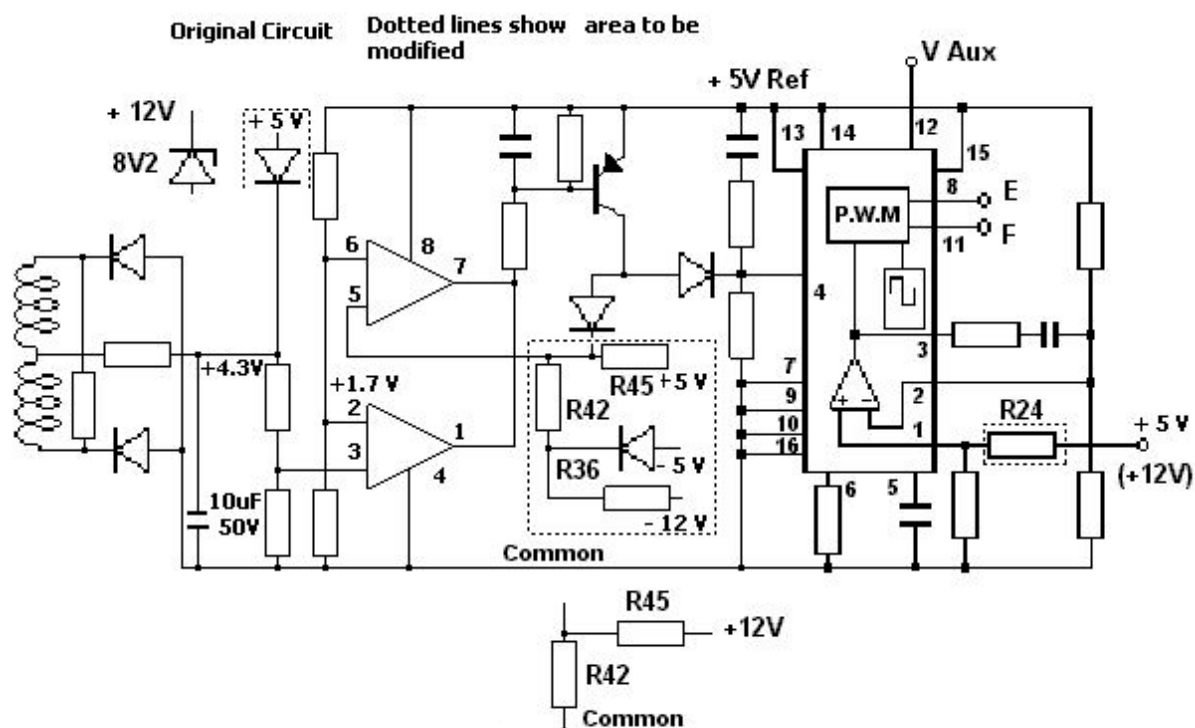
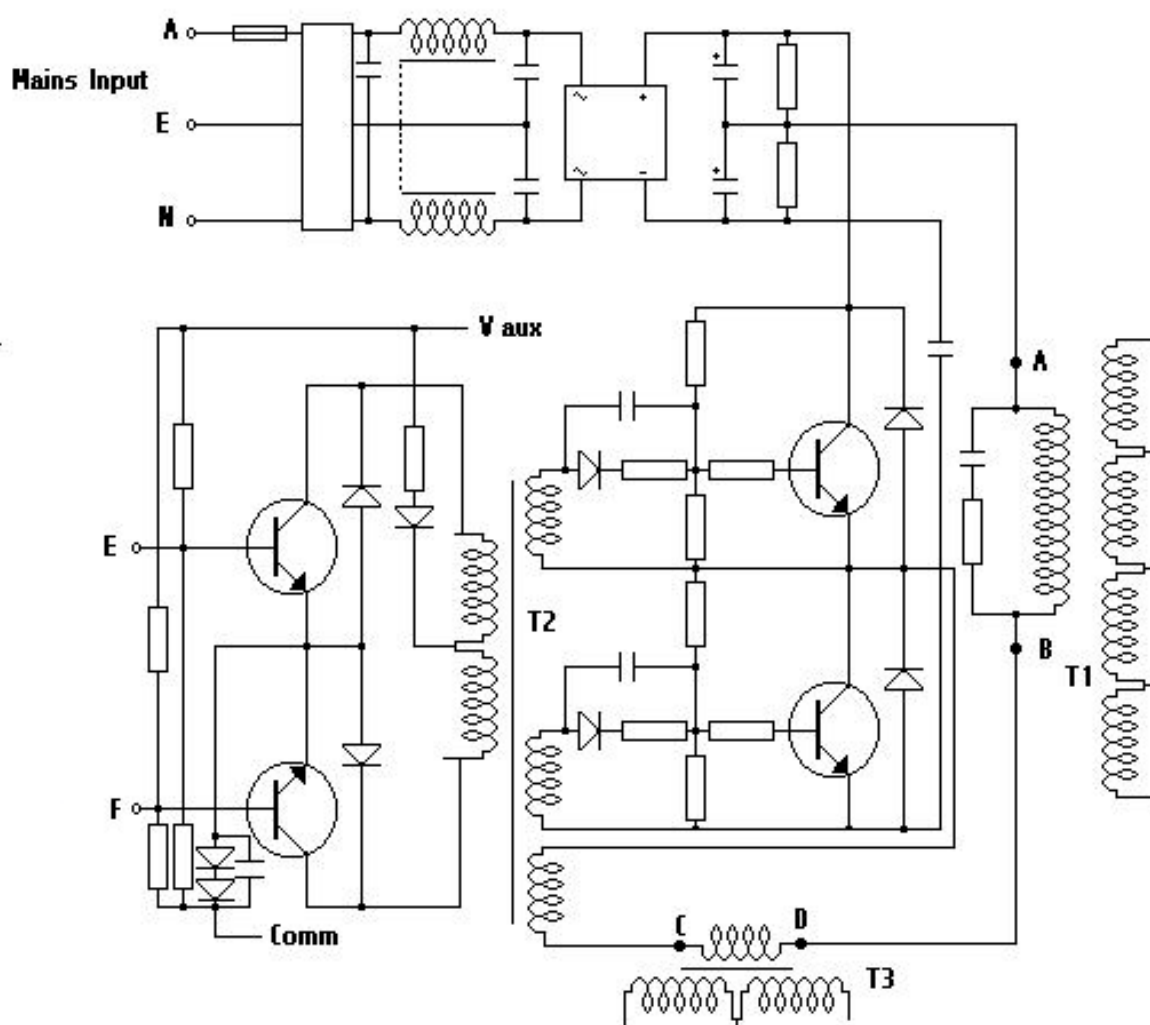

Fig 2: The regulation and protection circuitry
Fig 3: The primary side: mains filter, mains rectifier, power switches and drivers.
THE ERROR AMPLIFIER in IC1, TL494CN, (Fig 2) compares the actual +5V output voltage with an on-chip reference and adjusts the set-point for the pulse width modulator accordingly. The modulator sends alternate pulses to the driver transistors TR3 and TR4 (Fig 3). Increased loading on the 5V output makes for wider pulses; lighter loading causes narrower pulses. As there is a finite minimum pulse width, a minimum load of 0.1A is required; it is provided by a bleeder resistor. As L4a and L4c are wound on a common core with L4b, the +/-12V outputs are also included in the regulation loop. Several protective circuits are included. Excessive primary current or short-circuiting of the -5V and 12V causes immediate power-down via the 'protection' input of IC1.
*Other changes are required in the regulator and protection circuit, see Fig 2
Warning: Mains voltage appears on some of the components in Fig 3 during normal operation. Appropriate insulation and shock protection during test, adjustment and use are imperative.
TESTING THE FOLLOWING QUESTIONS remained to be answered: What regulation could I expect during load steps from 1A (receive) to 17A (transmit) and back? I connected as a load two 95W car headlight bulbs. That did not provide a load supply to cycle on and off! Substitution of proper highwattage resistors for the bulbs showed that the regulation could handle these large load steps, up or down, with output voltage excursions not exceeding 0.15V. Would harmonics of the switching frequency interfere with HF reception? Yes, a 33kHz raster covered all HF bands with S-meter readings of S5 on 80m down to S2 on 10m. As I was testing the board in a metal box, the HF radiation could only get out on the mains cable and/or output leads. The insertion of an additional standard mains filter (Fig 3) and a home-brew pi-filter in the output (Fig 4b) rendered the interference inaudible.